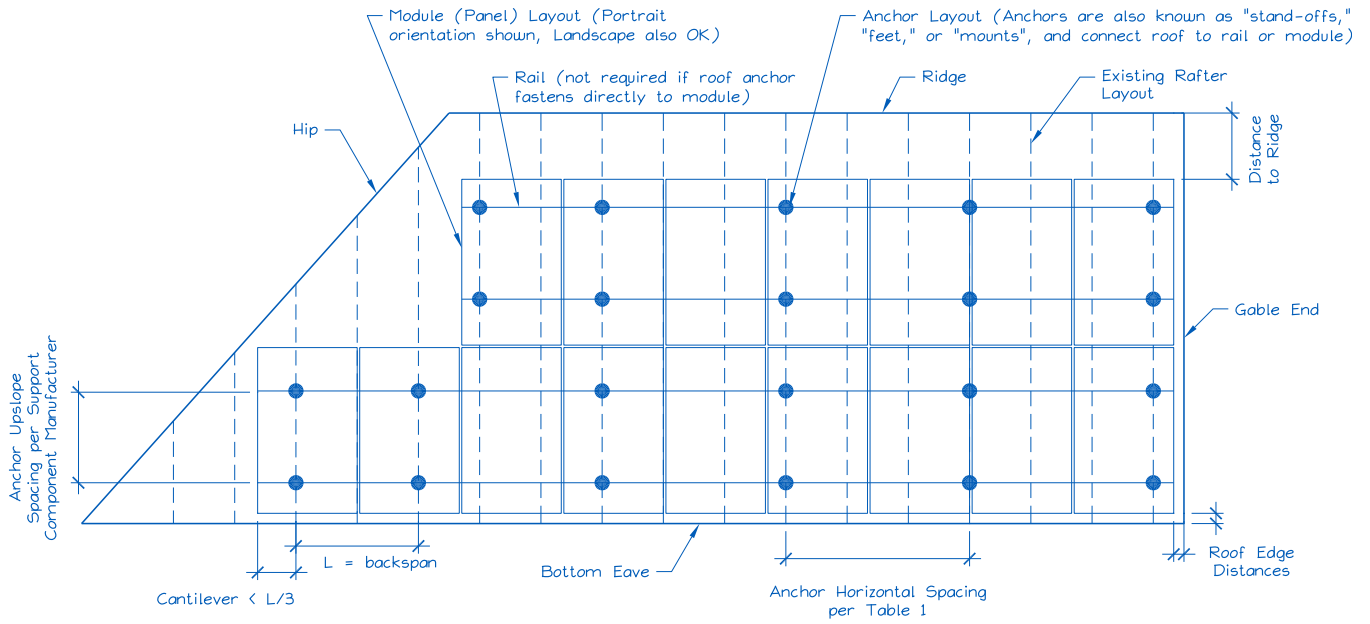

Figure 2. Sample Solar Panel Array and Anchor Layout Diagram (Roof Plan).
- E. Is a roof plan of the module and anchor layout attached? (see Figure 2) Y N
- 1) Proposed anchor horizontal spacing (see Figure 2): _____' - _____"ft-in
1. Anchors are also known as "stand-offs," "feet," "mounts" or "points of attachment." Horizontal anchor spacing is also known as "cross-slope" or "east-west" anchor spacing (see Figure 2).